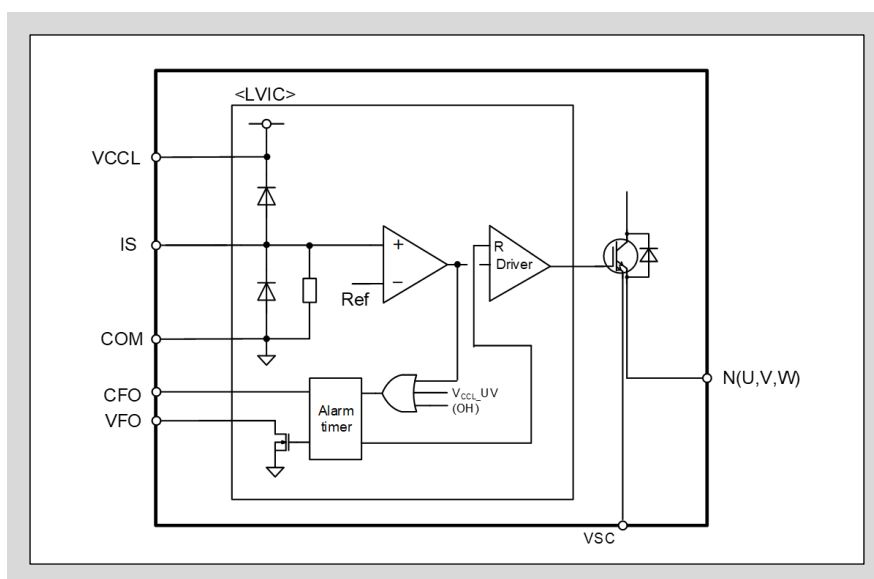
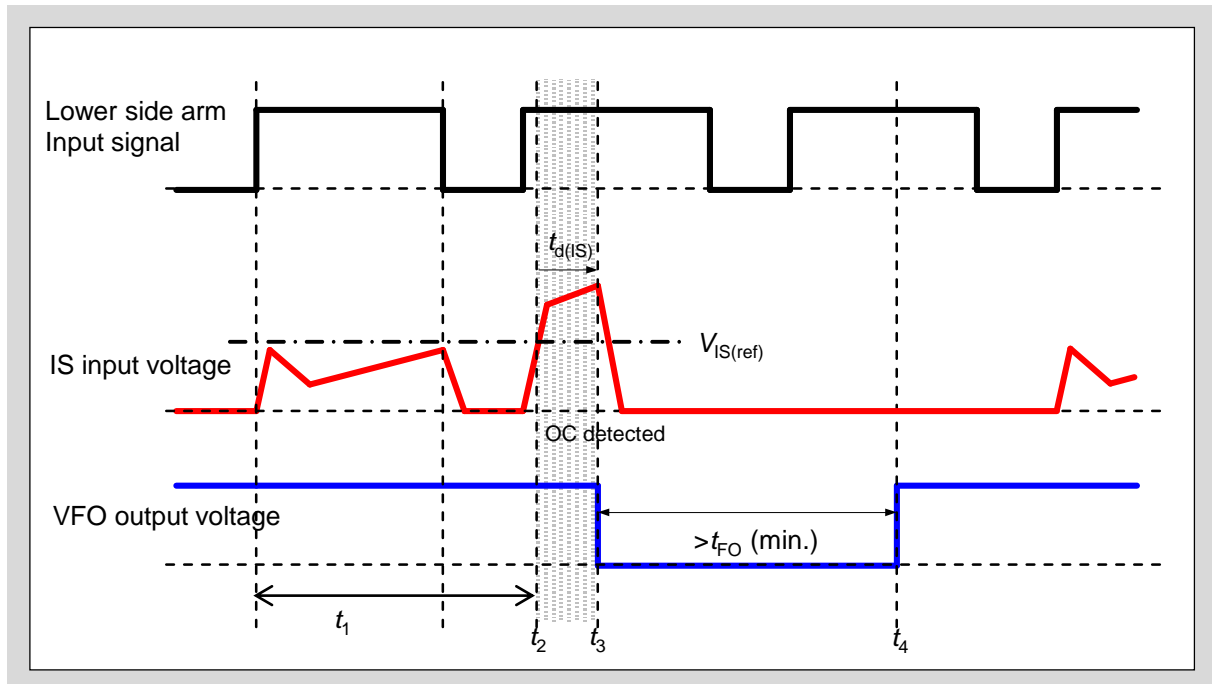

Fig. 3-19 OC protection detection circuit of IS terminal
Fig. 3-20 OC protection operation sequence
- The overcurrent (OC) protection works by detecting the voltage generated at the external shunt resistor connected between N(U,V,W) and COM terminal, or the voltage generated at the sense resistor connected between VSC and COM terminal, and input to IS terminal. When this voltage exceeds $V_{IS(ref)}$, all low-side IGBTs are turned-off and fault output is generated.
- Fig. 3-19 shows the OC protection detection circuit of IS terminal. Fig. 3-20 shows the OC protection operation sequence.
- As shown in Fig. 3-19, diodes are connected between VCCL-IS and IS-COM terminals. These diodes are built-in to protect the product from input surge voltage. Do not use these diodes for voltage clamp purpose as it might damage the product.